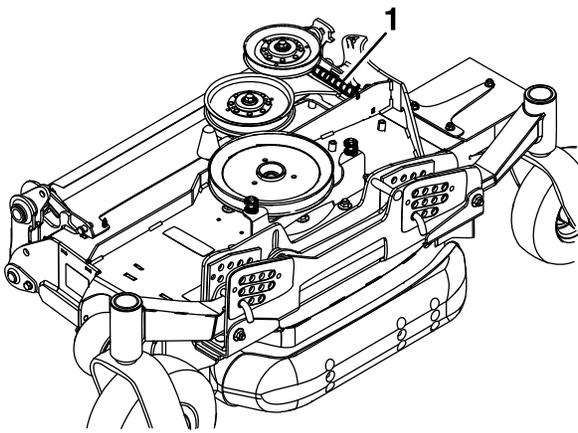

Figure 88
- 23. To ease installing the wing deck sections, carefully remove the exposed end of the spring that applies pressure to the rear of the wing deck cover (Figure 88).